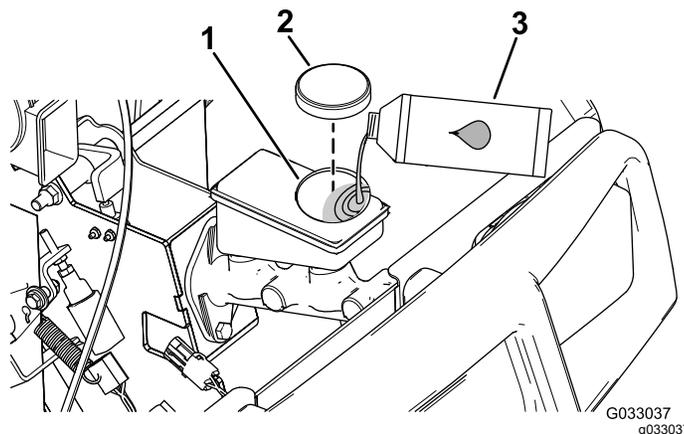

Figure 17
2. Raise the hood to gain access to the master-brake cylinder and reservoir (Figure 17).
- A. Clean the area around the reservoir cap and remove the cap (Figure 17).
- C. Install the reservoir cap (Figure 17).